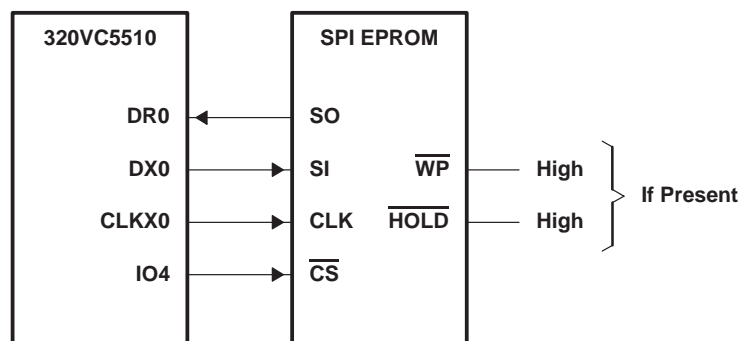

Figure 4. Signal Connections for SPI EEPROM Boot Mode
The minimum connection required between McBSP0 and the SPI EEPROM is shown in Figure 4. CLKX0 is the master clock driving the EEPROM CLK signal. DX0 transmits data to the EEPROM serial data input (SI) signal. DR0 receives data from the EEPROM serial data output (SO) signal. IO4 is used to operate the EEPROM chip select (\overline{CS}) signal. IO4 will automatically enable the EEPROM when the bootload is ready to begin, and will disable the EEPROM when the bootload is complete.